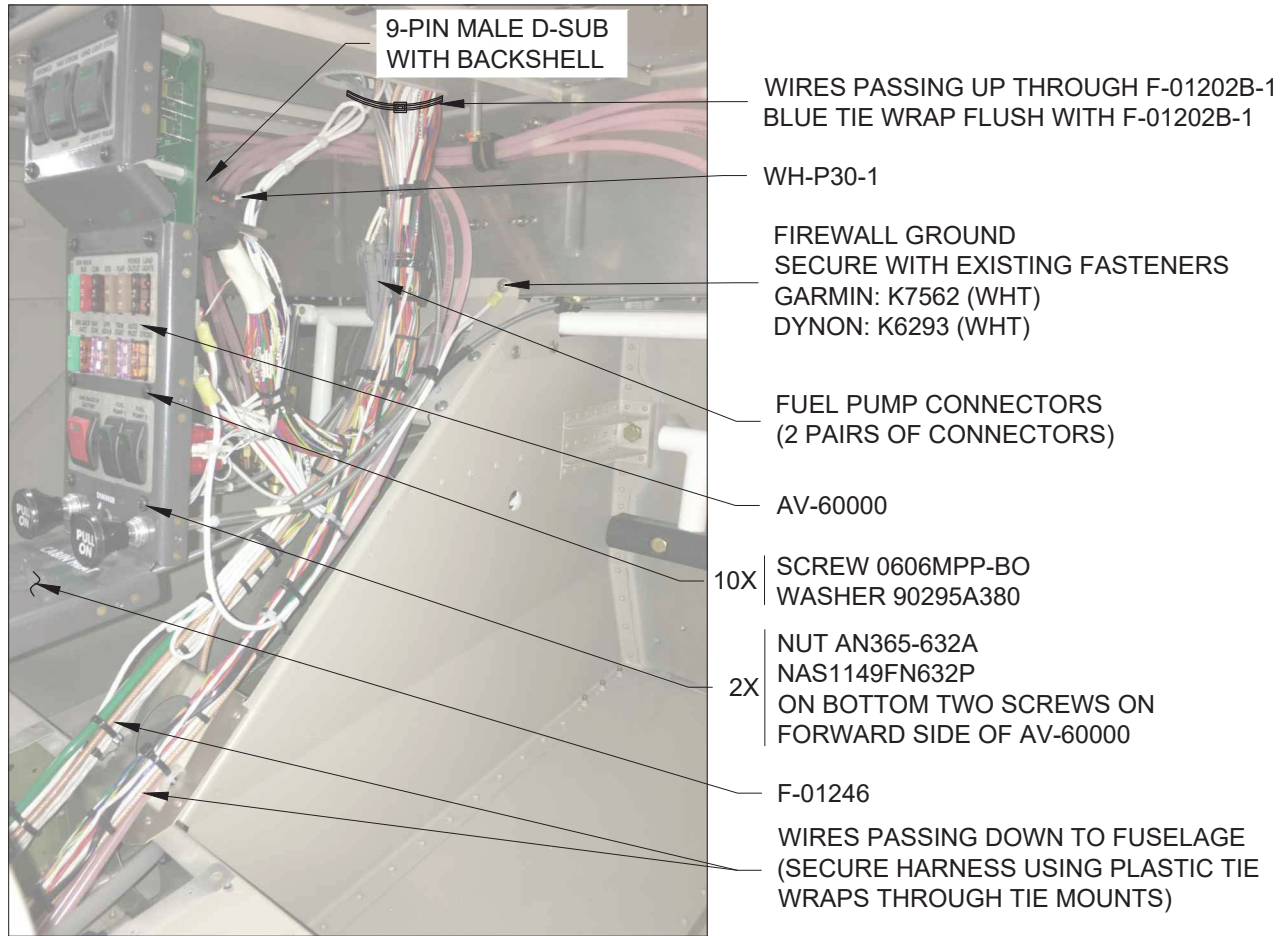
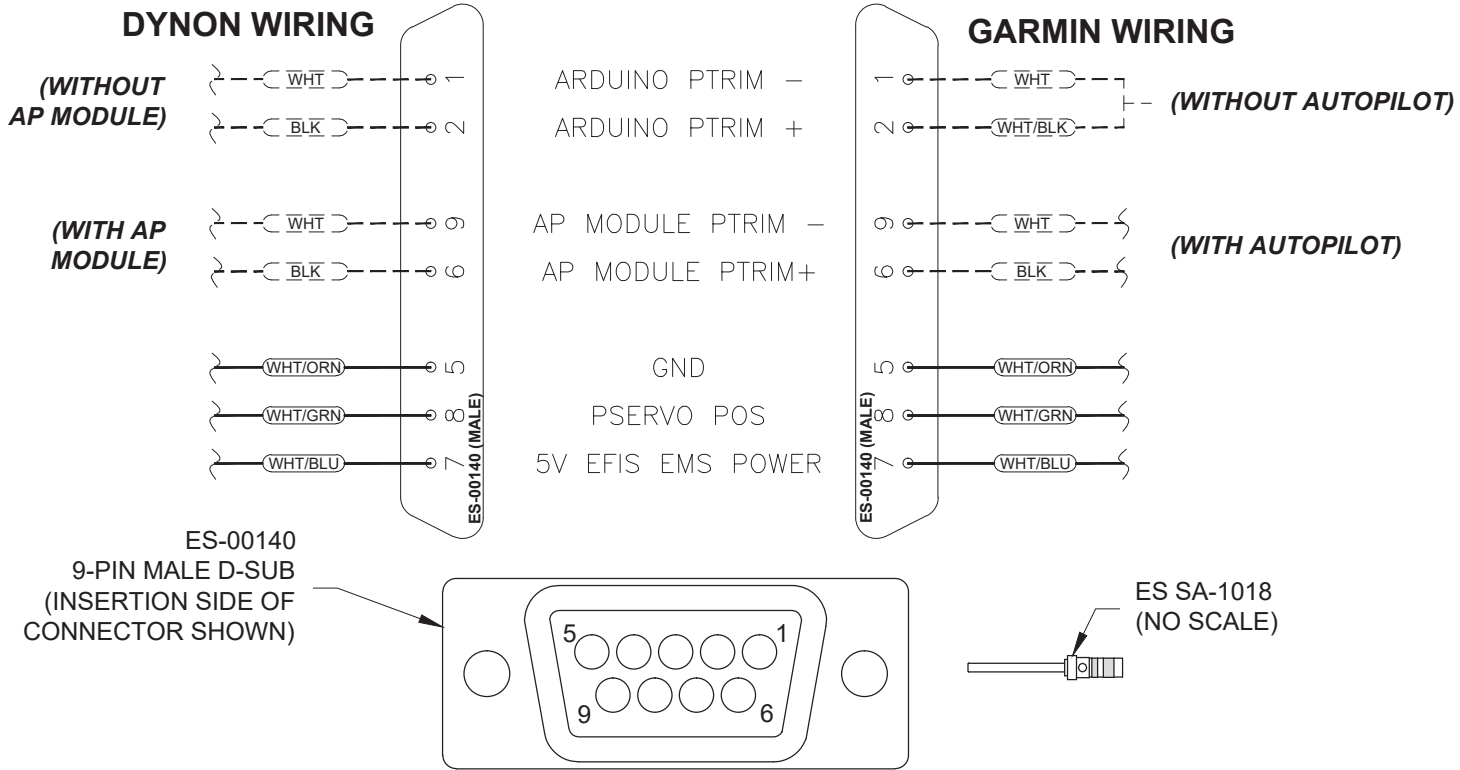

FIGURE 1: INSTALLING AV-60000
FIGURE 2: WH-P30-1 WIRING
NOTE:The (WHT) and (BLK) wires of the WH-P30-1 go to different locations of the 9-pin male d-sub installed in Step 6, depending on whether or not an autopilot will be installed. See Figure 2.
Step 6: Crimp on ES SA-1018 pins onto the WH-P30-1 trim wires, and populate the 9-pin male d-sub as shown in Figure 2. Install the backshell, then connect the d-sub to the AV-60000 as shown in Figure 1.